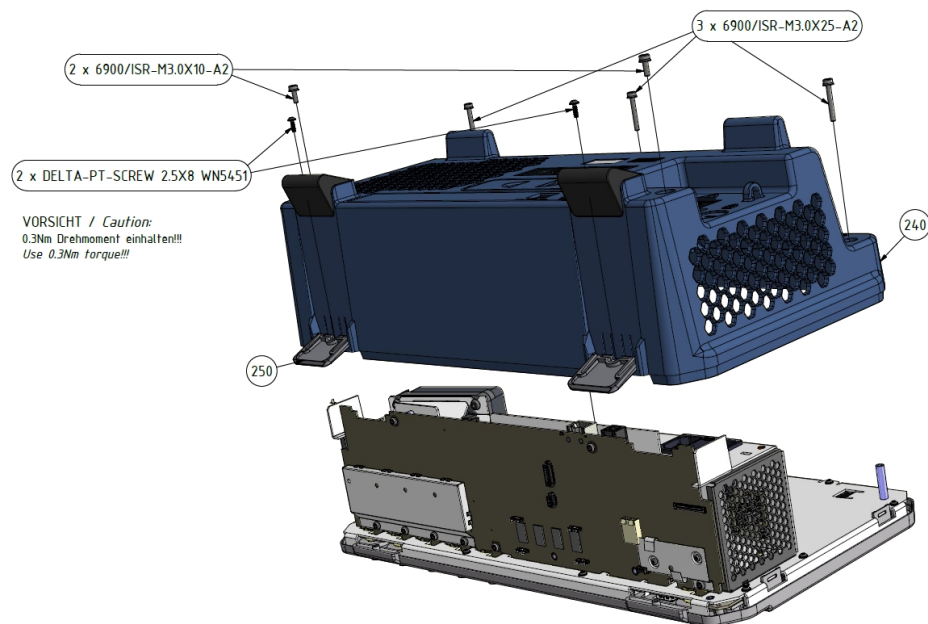

Figure 4-1: Exploded assembly drawing of housing mounting
3. Turn down the instrument feet (250).
4. Unscrew the 7 screws at the rear of the instrument casing using a TORX Plus 10 IP screwdriver. See Figure 4-1.
5. Gently slide off the housing (240) from the instrument in a vertical direction.
3. Fix the housing with 7 screws using a TORX Plus 10 IP screwdriver. See Figure 4-1.